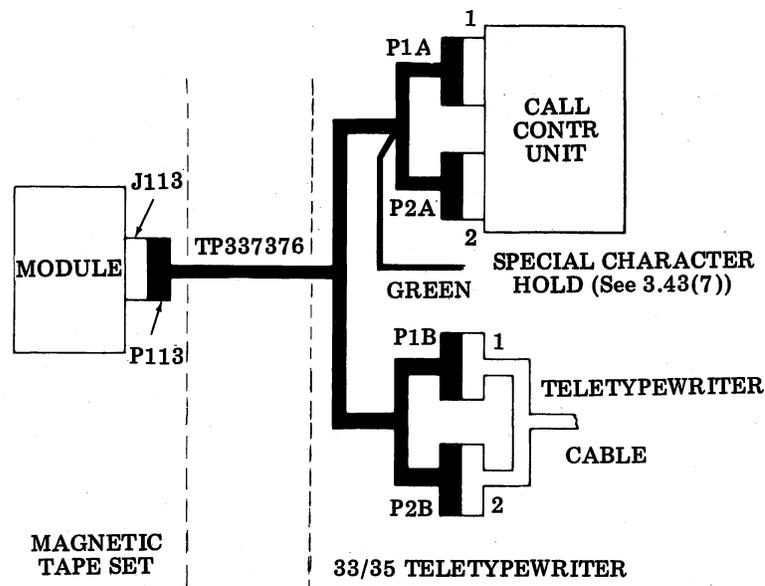

Figure 9 - Magnetic Tape Set Interfaced to 33/35 Teletypewriter With UCC29 Call Control Unit
3.43 This interconnection is achieved by removing the 1 and 2 connectors from the call control unit, and connecting the four connectors at the end of the TP337376 cable to the teletypewriter cable and call control unit as shown in Figure 9. A lead is also available for special character hold functions. The connection procedure is as follows: